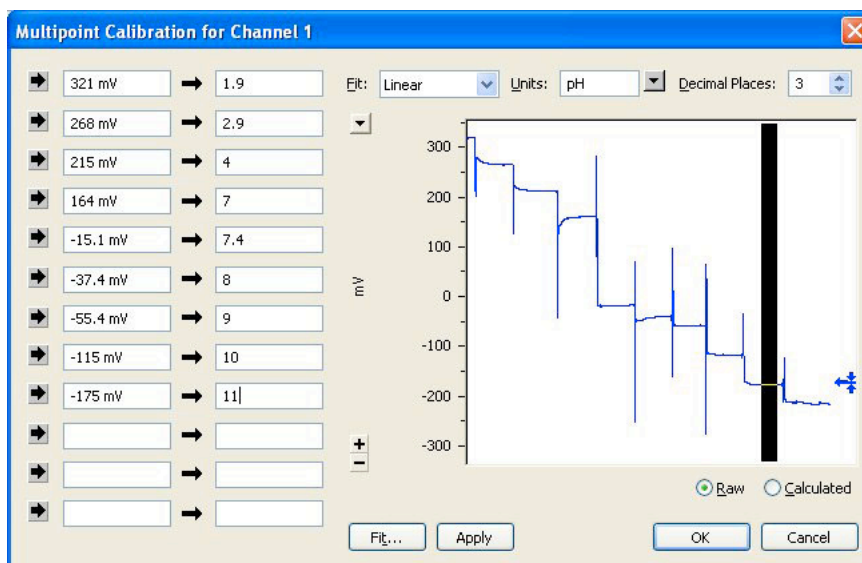

Figure 6.9 Multipoint Calibration dialog box
- 6.3.3** Make a selection of data covering all the signals recorded for all the pH buffers, then choose the **MPCalibration...** command from the Channel Function pop-up menu. The Multipoint Calibration dialog box will then appear (**Figure 6.9**).